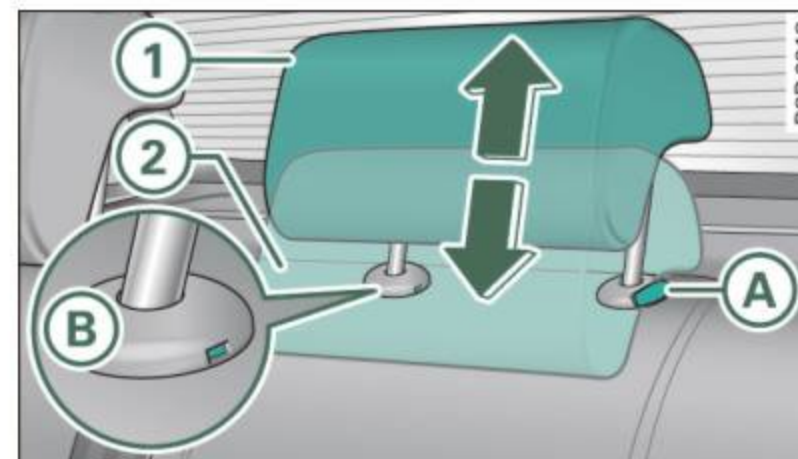

Fig. 99 Center rear head restraint: adjusting the height
- Move the head restraint to the uppermost position ⇒ fig. 99 ① until it latches (in-use position).
- Press the release button ⇒ fig. 99 A.
- Press the head restraint down until it lies against the seat back ② (park position).
- Press the release button A ⇒ page 104, fig. 99 and pull the head restraint upward as far as it can go at the same time.